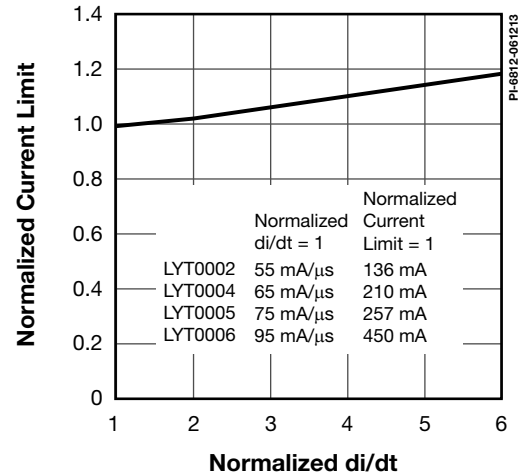

Figure 14. Current Limit vs. di/dt.
- For current limit at other di/dt values, refer to Figure 14.